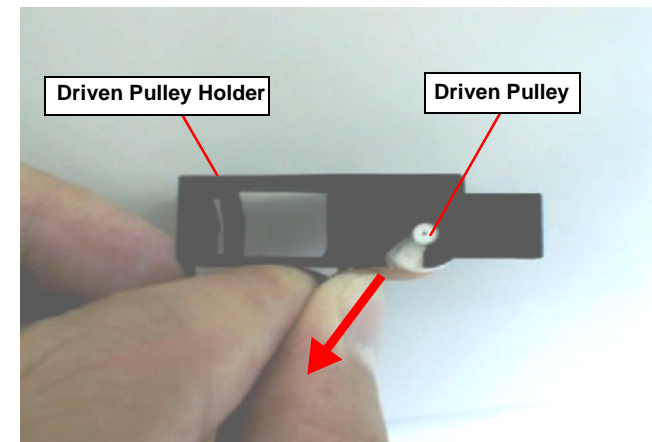

Figure 4-37. Removing the Driven Pulley
- 6) Remove the Driven Pulley from the Driven Pulley Holder with the timing belt. Refer to Figure 4-37.